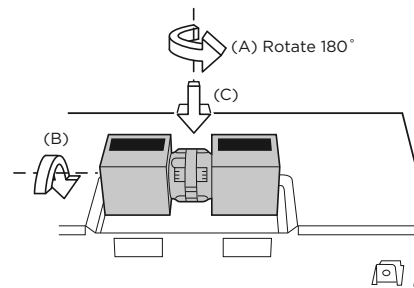

Figure 14
- Rotate the Hood Fan Unit 180° so that the fan blade openings are facing the back of the oven. Note, you will need to lift the wire over the hood fan unit so the wire will clear. See Figure 14 (A). Then rotate the Hood Fan Unit 90° so that the fan blade openings are facing the top of the oven. See Figure 14 (B). Replace Hood Fan Unit into the oven. Be careful not to pinch the lead wire between the inner bracket and the Hood Fan Unit. Put the lead wire into Wire Box. See Figure 14 (C).